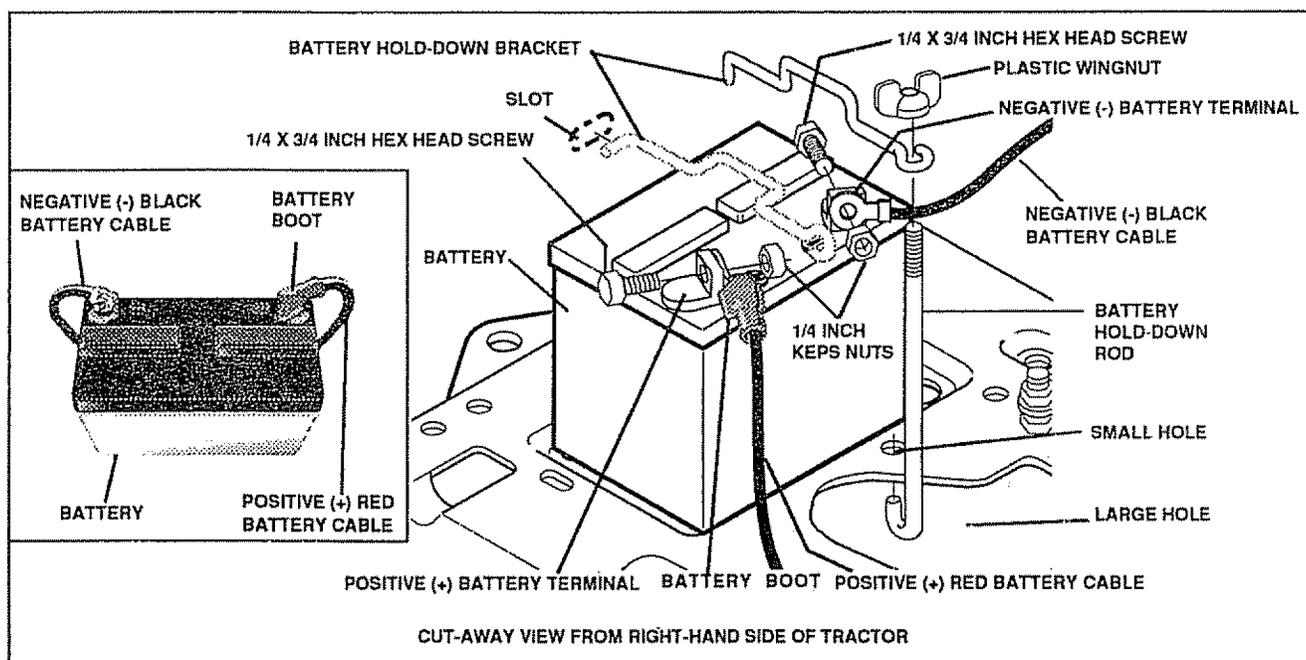

FIG. 9
### REINSTALL CHARGED BATTERY (See Fig. 9)
- Place battery boot over positive (+) battery terminal (see Fig 9 inset).